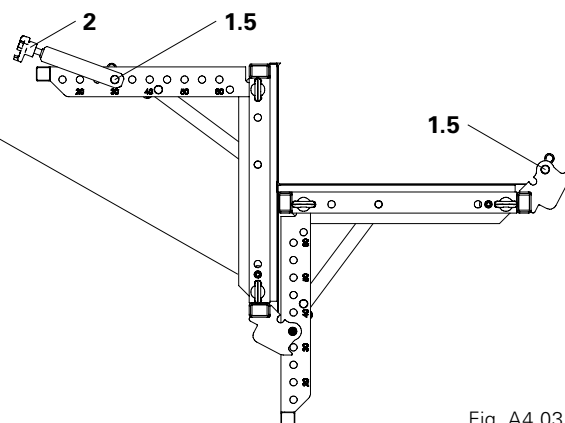

Fig. A4.03.
2. Mark out QUATTRO QR Frame Spanner (2) using the provided bolts  $\varnothing 20 \times 140$  (1.5).
- Example: column = 35 cm, Frame Spanner = 30 cm. (Fig. A4.03)